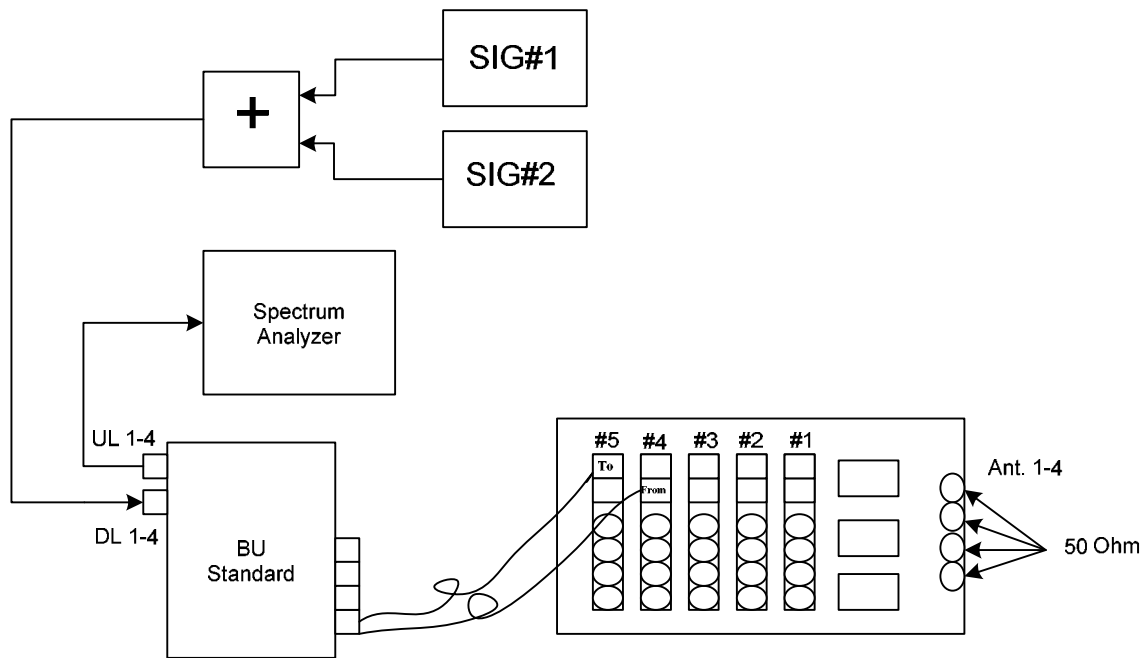

Figure 11.1 Interference DL-to-UL Setup
11.3. Connect Spectrum Analyzer to the relevant Cabinet Antenna port, BU to the relevant RHU in the Cabinet and Signal Generator to the relevant Cabinet Antenna port, as shown at Figure 11.1.